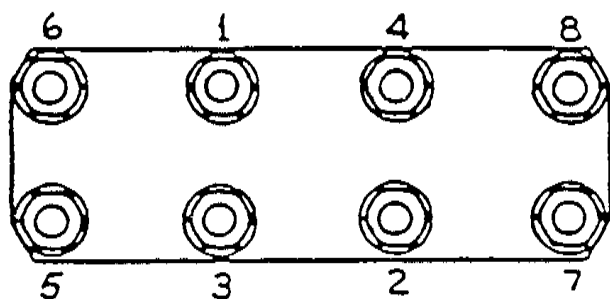

FIGURE 4
- b. Assemble plug removal tool (T8) to top cylinder plugs (23) or front cylinder plugs (19).
- c. When installing the top plugs (23), be sure that each plug stem is inserted into the discharge valve spring (11), which should be located, upright and centered, on top of the discharge valve (9).
- g. Lubricate all studs, install the top plate (21), the top plate nuts (22), the front plate (17) and front plate nuts (18). Refer to Figures 4 (Model 803) or 5 (Models 804/805) for nut-tightening sequence.